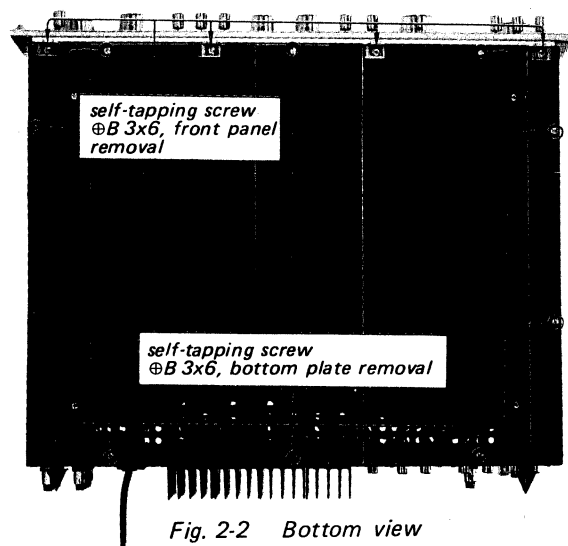

Fig. 2-2 Bottom view
2. Remove the ten self-tapping screws ( $\oplus$  B 3x6) at the bottom of the receiver (see Fig. 2-2) and pull the bottom plate in the direction indicated by the arrow in Fig. 2-2.
4. Remove the four self-tapping screws ( $\oplus$ B 3x6) at the front bottom of the chassis as shown in Fig. 2-2. This frees the front panel.